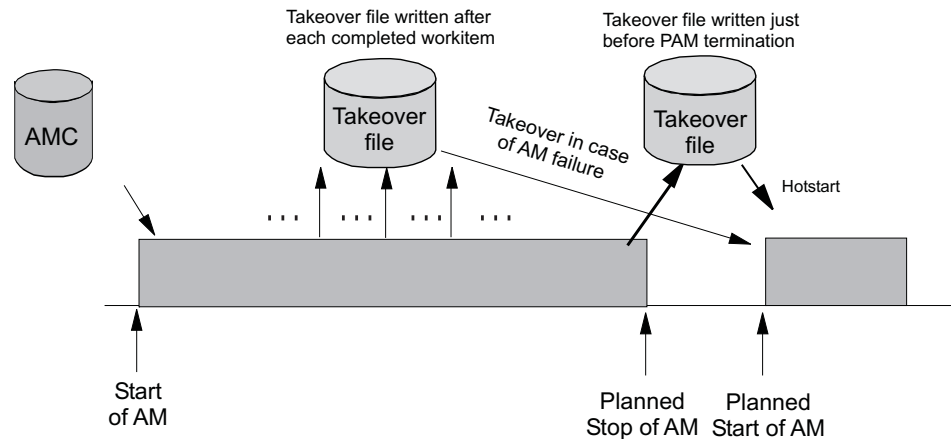

Figure 5. Using Only the Takeover File for Status Backup
Figure 5 illustrates the timeline from the start of the automation manager (AM) through to its termination for the following cases: